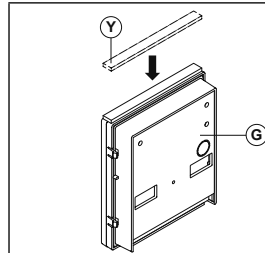

Fig. 9
Apply the (Y) seal as shown in **Fig. 9**.